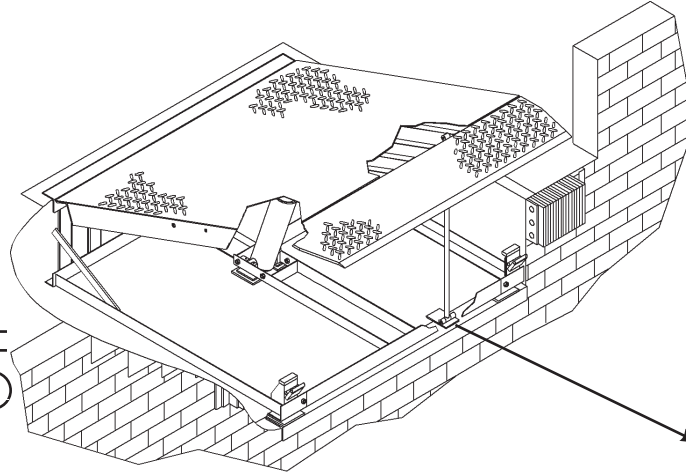

Figure 22
Whenever maintenance is to be performed under the dock leveler platform, support the platform with maintenance prop (C). Position the maintenance prop behind front header plate (D) while staying clear of the lip. The lip will fold down after the platform has rested on the maintenance prop. Lock the maintenance prop in the service (upright) position using an OSHA approved lockout device* (B) and tag out device* (A). See Figures 22 and 23.